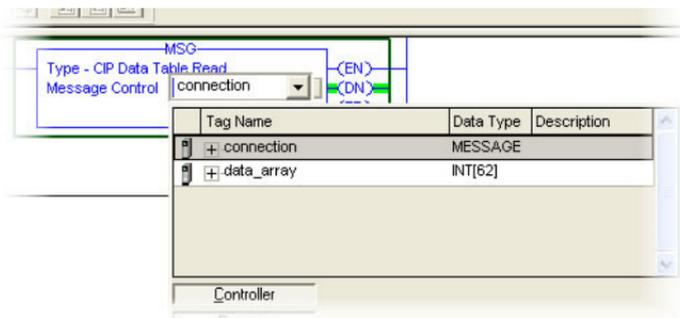

Figure 41: MSG Instruction Tag Assignment
- a) Edit the “Message Control” field on the MSG instruction to use the previously-created “connection” tag. Refer to Figure 41.